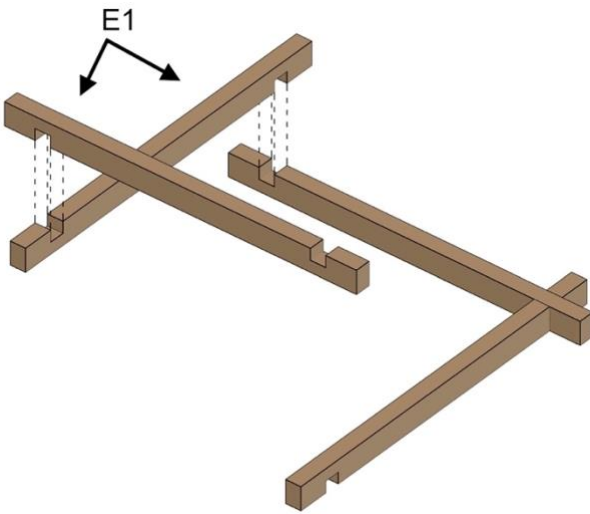

Fig. 55
- Align parts exactly as shown in Fig. 55.